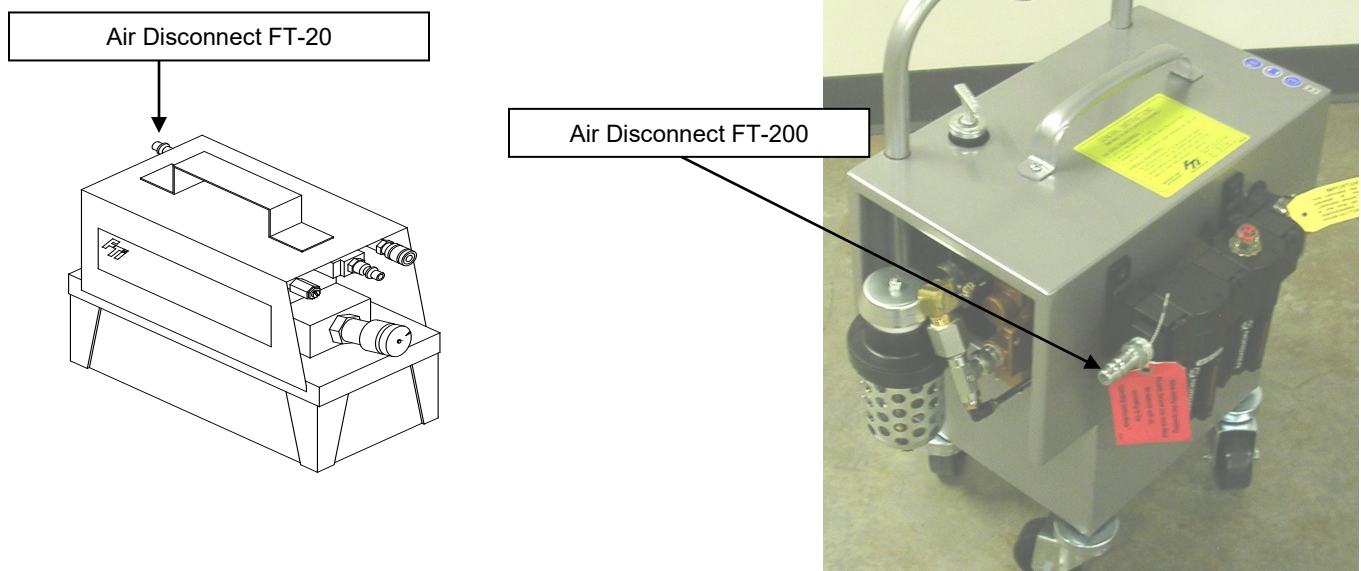

Figure 2.0-2
4. Disconnect the air supply (Figure 2.0-2) when:
5. In the event of a ruptured or leaking hydraulic hose, **IMMEDIATELY RELEASE THE TRIGGER AND DISCONNECT THE AIR LINE**, at the air coupler, from the PowerPak (see Figure 2.0-2). **Never use your hands** to grasp a leaking hose under pressure. The force of escaping hydraulic fluid could cause serious injury. If hydraulic oil should penetrate the skin, medical attention must be sought immediately.